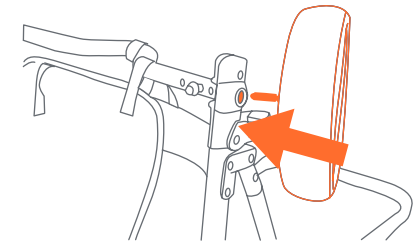

Fig. 5
• Press the rear wheel posts into the rear frame hub until it clicks into place (Fig. 5).